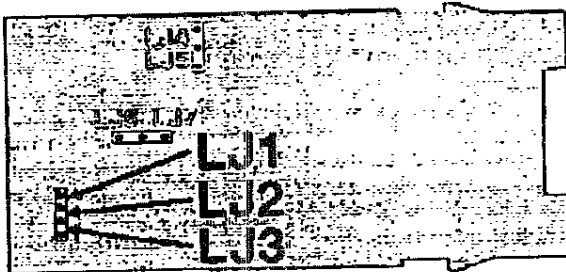
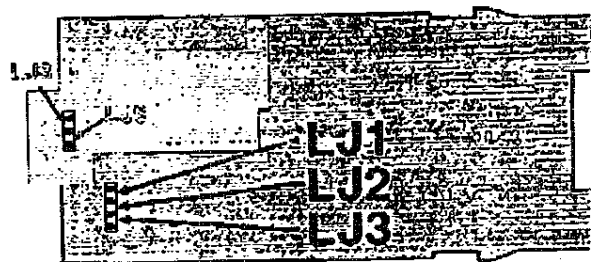
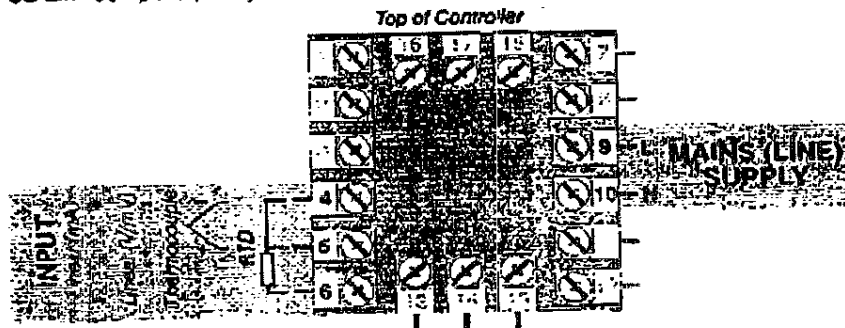

Figure 1 CPU PCB Link Jumpers (Relay/SSR Output 1)
Figure 2 CPU PCB Link Jumpers (DC Output 1)
Figure 3 6100 Controller - Rear Terminal Connections
1. Ensure that the Controller is powered-off and that the mains (line) lead is disconnected. On the CPU PCB (Type 530), fit the appropriate link jumpers (see Table 1 and Figure 1 or Figure 2, as appropriate). Connect the appropriate input lead (see Figure 3).